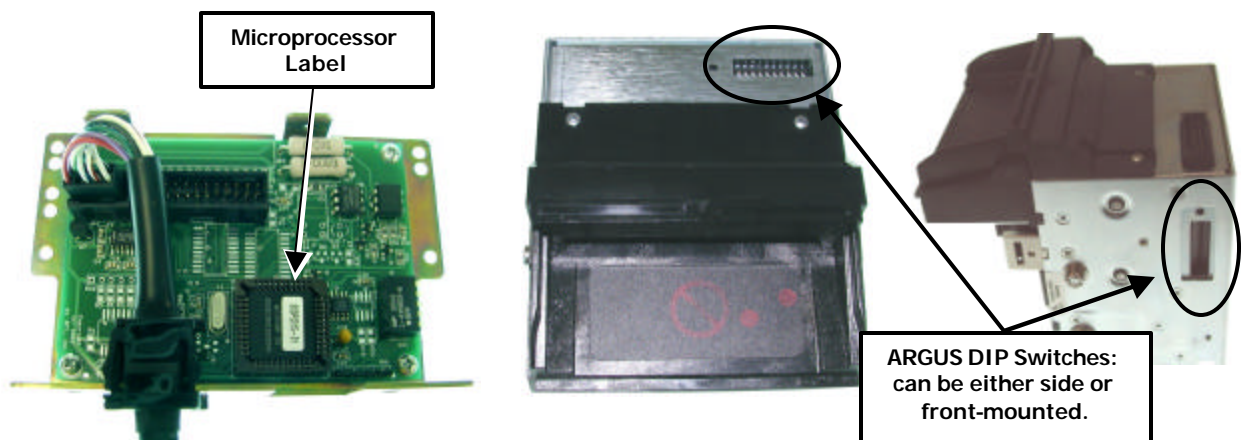

Figure 6. Microprocessor Label and DIP-Switch Locations
2. The Currency Denominations label, which specifies DIP-Switch settings of currency denominations for ARGUS Currency Validator, may appear on cover. The setting on label must be used instead of values in Program Specification Sheet. This label appears for certain programs ending with -1 (e.g., 300PD013-1) for the last digit on Microprocessor Label (Figure 6).
7. Examine program number on Microprocessor Label (**Figure 6**), and then make the necessary settings to DIP Switches on ARGUS Currency Validator as indicated in Program Specification Sheet for your unit.